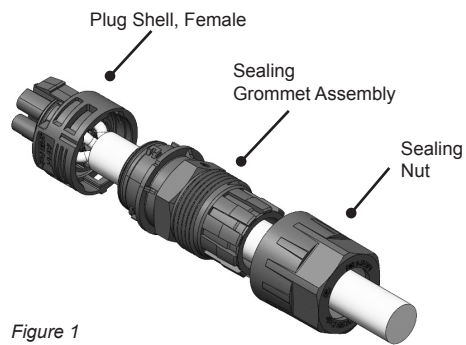

Figure 1
- c. Slide approximately 1.6" (40 mm) of wires through wire protection nut and then through the sealing grommet side of the sealing grommet assembly. ( See figure 1)